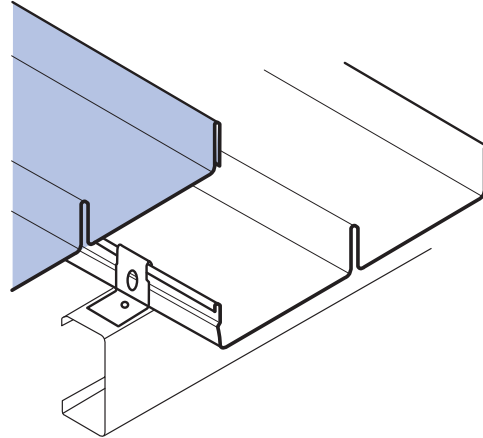

Figure 10.3.6:
2. Place top fixing clips over each squashed male rib and fix to the purlins (Figure 10.3.5). With a felt-tipped pen, make a small mark in the pan to enable you to locate the clips in the later locking operation with the button punch (Figure 10.3.6).
All lapped ribs must be locked along their length, by button-punching at the clips, and if necessary between the clips (typically at 900mm centre to centre. Figure 10.3.6). Punching to a string line guide stretched across the sheeting is recommended as random punching mars the appearance of the finished work.